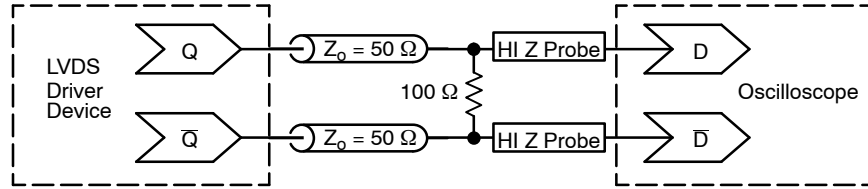

Figure 17. Typical LVDS Termination for Output Driver and Device Evaluation
5. LVDS outputs require 100  $\Omega$  receiver termination resistor between differential pair. See Figure 17.
12. Measured by forcing  $V_{INPPmin}$  with 50% duty cycle clock source and  $V_{CC} - 1400 \text{ mV}$  offset. All loading with an external  $R_L = 100 \Omega$ . Input edge rates 150 ps (20%–80%). See Figure 17.